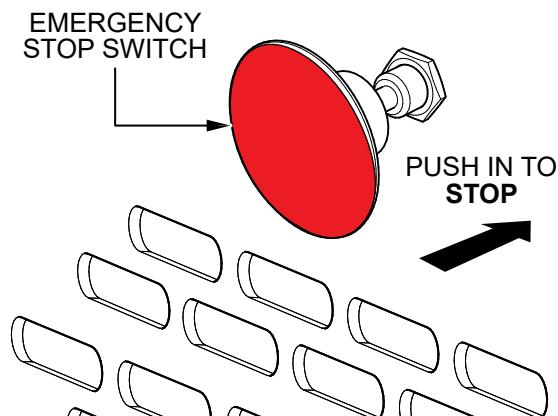

Figure 24. Emergency Stop Switch (STOP)
8. Once the engine has started, the emergency stop switch should be tested for proper operation. Press the emergency stop switch (Figure 24) and observe that the engine has stopped.